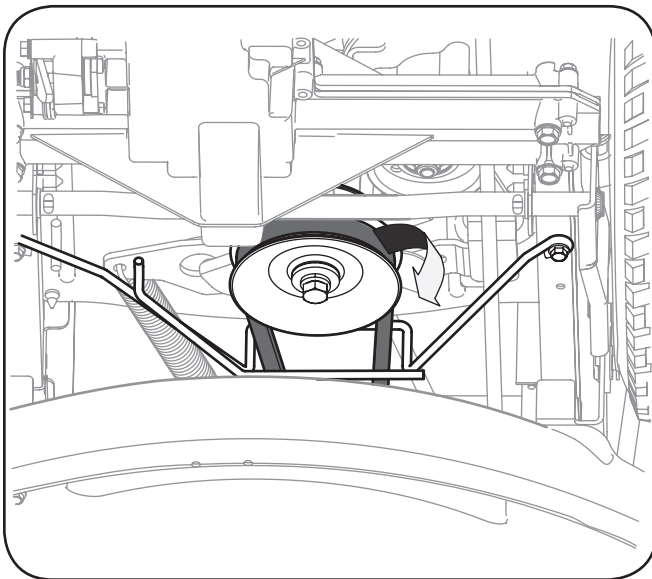

Figure 7-2
4. Remove the belt from around the tractor's PTO pulley. See Fig. 7-2.
3. Remove the deck belt from around the unit's PTO drive pulley as shown in Fig. 7-2. Simply roll one side of the belt off of the pulley and then work it off the pulley by continuing around the pulley until the belt is off of the pulley.
4. Pull the belt towards the rear of the unit, pulling it through and out of the belt keeper bracket, shown in Fig. 7-2.
8. Feed the deck belt through the belt keeper bracket and work it around and onto the PTO drive pulley as shown in Fig. 7-2.